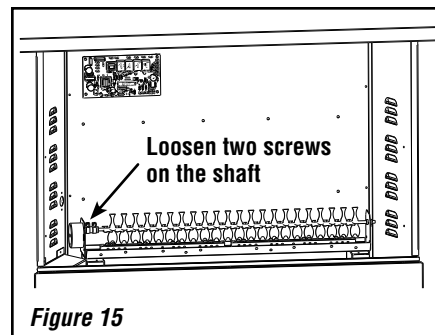

Figure 15
- iii. Loosen two screws to release the metal ring between the flame flicker rod shaft and the motor shaft. Carefully remove the flicker rod out from both ends (see Figure 15).